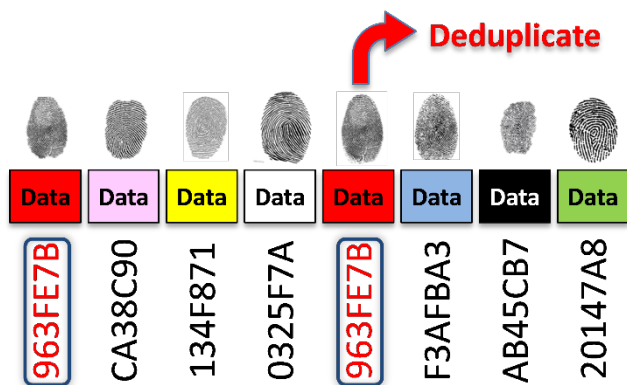

Figure 7. Deduplicating the Existing/Repeated Block
- If a data block fingerprint already exists in the system, it is not written in the Mapping table (as shown in Figure 7). The reference count for fingerprint will be increased by one.